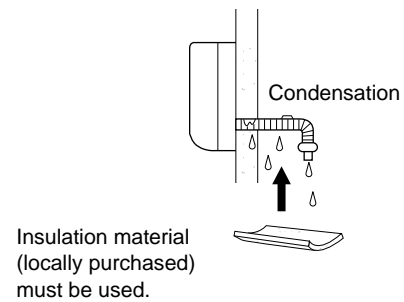

Fig. 40
- If the drain hose will run in the room, insulate the hose with insulation* so that chilled condensation will not damage furniture or floors. (Fig. 40)